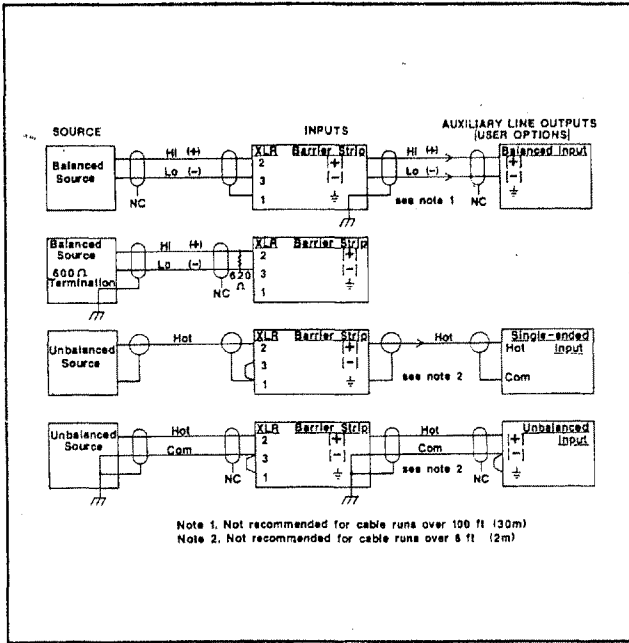

FIGURE 3 — Typical Input Connections
Two conductor shielded low-impedance cable is recommended for input lines to the amplifier. Pin 2 of the XLR-type connector is high (+), pin 3 is low (-), and pin 1 is ground. The ¼-inch jack may be used as a low impedance input. Tip is high (+), ring is low (-), and the sleeve is ground. See Figure 3.
In the dual or stereo mode the channels may be operated independently. Before hook-up make sure that the mode switch is in the dual position and that the level controls are down (FCCW). Connect the inputs and outputs (See Figures 3 and 4). Turn the power amp on and slowly increase level until the desired output power is obtained. If either (clip) LED illuminates, reduce the output with the input attenuators or reduce the source signal level.
- Verify that the input connections are properly made. See Figure 3, page 4.
- Verify that the output connections are properly made. See Figure 3, page 4.